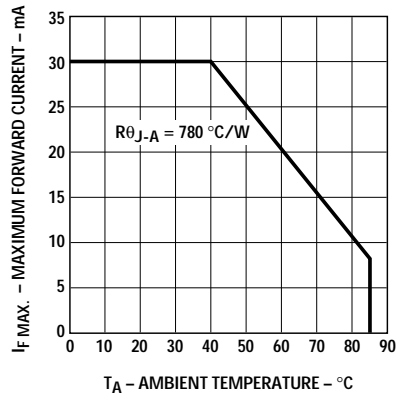

Figure 2. Forward current vs. ambient temperature.
1. Derate linearly as shown in Figure 2.